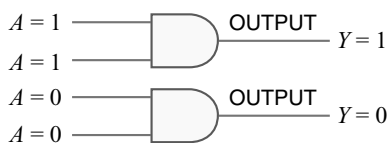

Fig. 24.42
**Theorem 6.** ( $A \cdot A = A$ ). This theorem states that if a variable  $A$  is ANDed with itself, the result is equal to the variable. For example, if  $A = 0$ , then  $0 \cdot 0 = 0$  and if  $A = 1$ , then  $1 \cdot 1 = 1$ . For either case, the output of an AND gate is equal to the value of the input variable  $A$ . Fig. 24.42 illustrates this theorem.